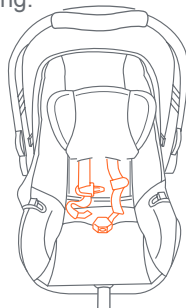

Fig. 39-1
3. Place the Safety Seat on a firm and level surface. Move the carry handle to the non rocking position. Loosen the Harness Straps by pulling on the straps while pushing on the Harness Adjuster Button located below the pad just in front of the buckle. Unfasten the Harness Chest Clip. Unbuckle the Harness Straps and drape the Harness Straps over the Seat back or to the sides of the Safety Seat (Fig. 39-1).